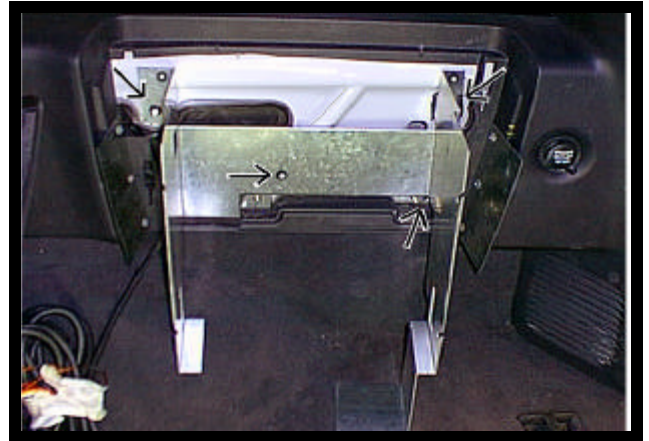

FIGURE 11
13. Align top holes in VCP mounting bracket (item 7 pg 2) with holes in vehicle. See Figure 11.
14. Insert (2) two well nuts (item 2 pg 2) into top holes and secure using (2) 10-32 x 1" screws (item 3 pg 2) and (2) two # 10 washers (item 4 pg 2). See Figure 11.
15. Secure bracket to vehicle using (4) four # 10 X 1/2" screws (item 5 pg 2).